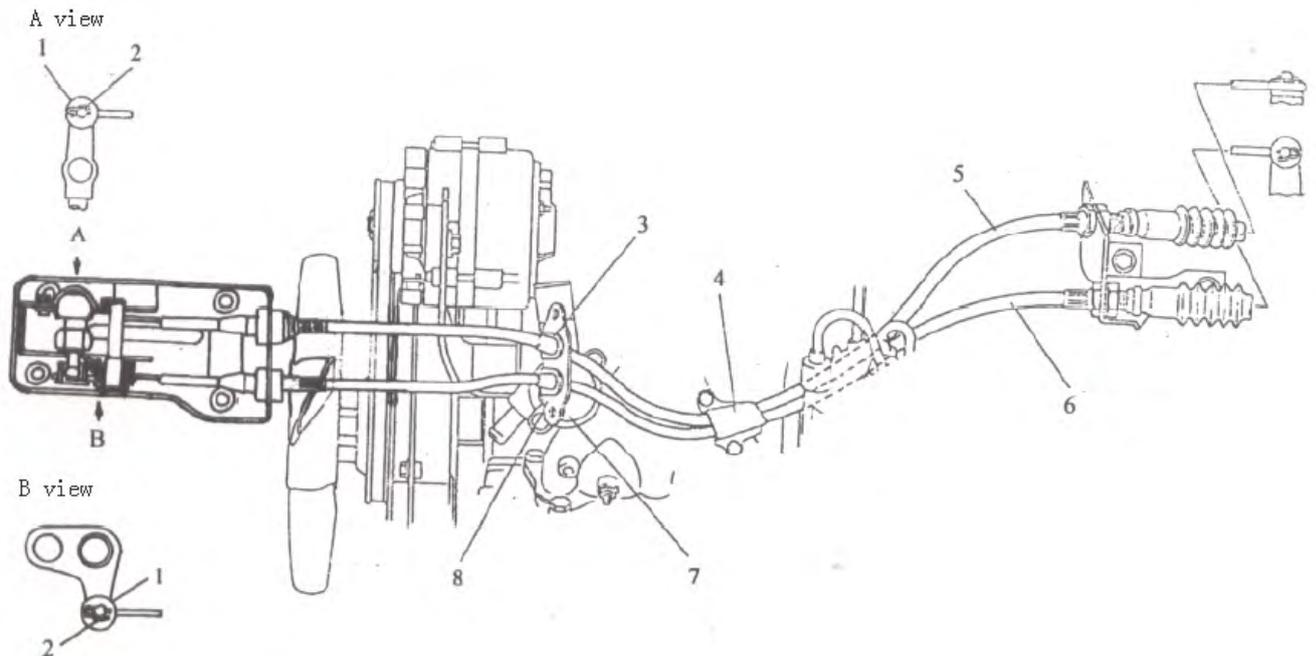

Fig 10-123
be sure to install washer and bush in correct installation positions and apply GREASE 201 to each greasing point indicated in FIG.10-123.
When connecting shift cable and select cable to control lever or lever on transmission case, do not confuse their connecting positions, refer to FIG.10-123 for correct connection.
- ① Before adjustment, check to make sure that each greasing point as indicated in FIG.10-123 is greased properly and that bush and other parts are not worn. Correct as necessary
- ② Gear shift cable need not to be adjusted.